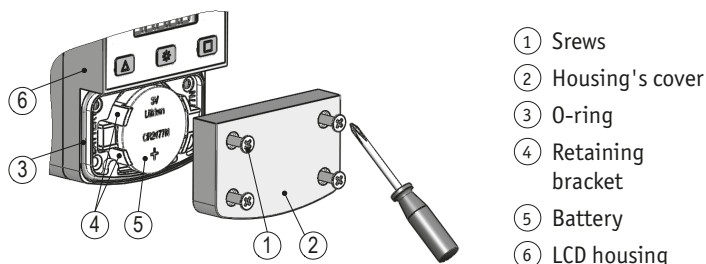

Fig. 9: Battery change
- ▶ Evenly tighten the screws ① until the housing's cover ② is completely aligned with the LCD housing ⑥ (see Fig. 9).
Deinstallation (see Fig. 9):
Installation (see Fig. 9):